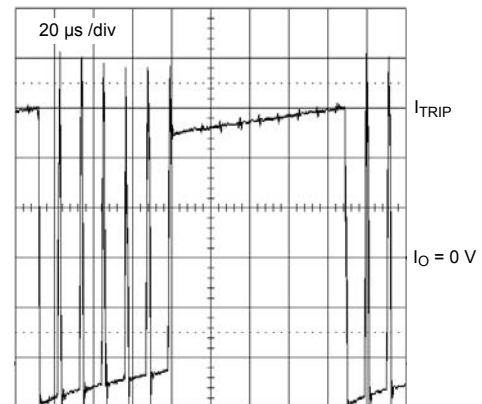

Figure 3.  $R_{sx}$  pins pattern during seeking behavior
increase in the  $R_{sx}$  input voltage level. The voltage at which motor coil short-circuit protection starts its operation,  $V_{OCP}$ , is set at approximately 0.7 V. In order for the motor coil short-circuit protection circuit to operate,  $V_{RSx}$  must be greater than  $V_{OCP}$ . Excessive current that flows without passing the external sense resistors ( $R_{SExtx}$ ) is undetectable. The function is shown in figure 3.
Figure 3. Motor coil short circuit protection circuit operation. Overcurrent that flows without passing the sense resistor is undetectable. To recover the circuit after protection operates, VDD must be cycled and started up again.
**Blanking Time and Seeking Phenomenon** By shortening blanking time, current control can be improved, but the ability to prevent ringing noise will be reduced, and a seeking phenomenon might occur, shown in figure 3. As a countermeasure against the seeking phenomenon, the SI-7321M offers two blanking times, selectable via the  $B\_SEL$  pin, 1.8  $\mu\text{s}$  and 3.6  $\mu\text{s}$ . Torque reduction or motor noise issues caused by the phenomenon may be improved by using the longer time.